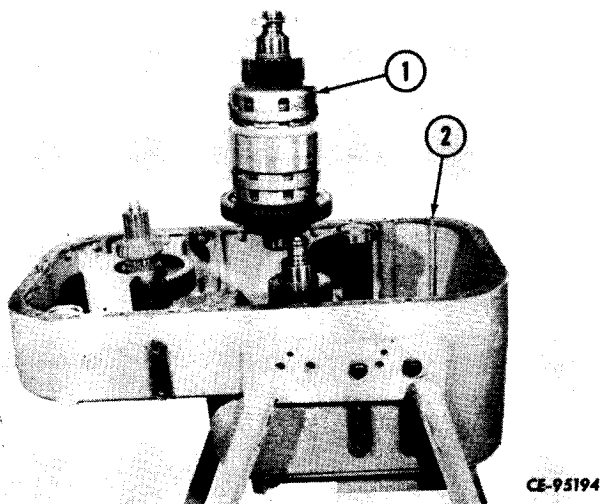

Figure 4-29
Attach special lifting tool (refer to "SPECIAL TOOLS") to the second and fourth clutch pack (1, Fig. 4-29) and remove pack from transmission (2). For overhaul procedure refer to "CLUTCH PACKS."